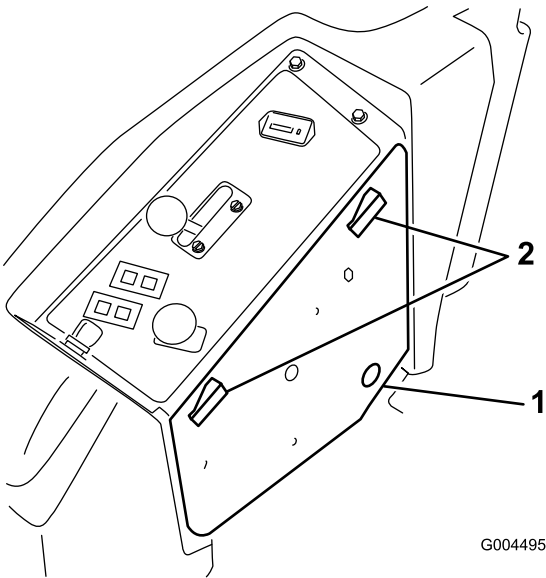

Figure 26
- 2. Unlatch the control panel cover and lay it to the side (Figure 26).